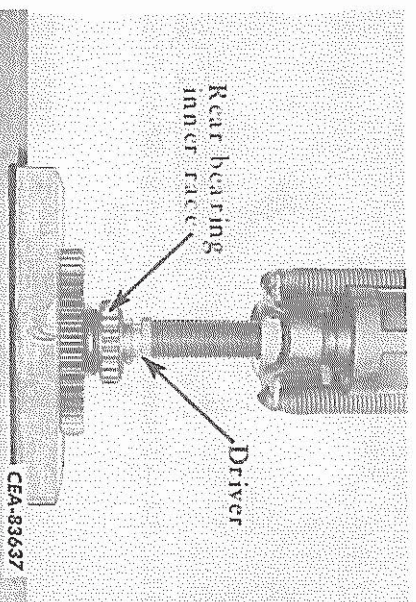

FIG. 38 — Removing the First Speed Driven Gear and Bearing Race
28. Position the shaft in a press supported by the first speed driven gear and press the shaft (using a driver) from the gear and bearing inner race (Fig. 38).